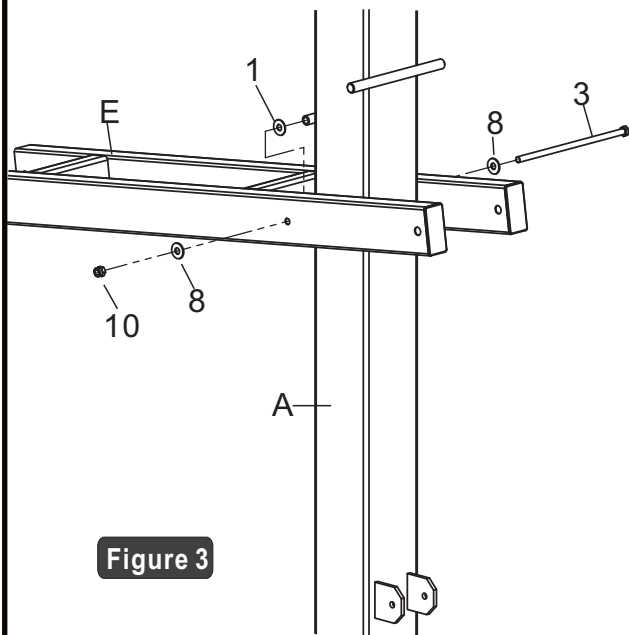

Figure 3
2. Attach Lower Extension arm (E) to Pole (A), as shown in Figure 3.